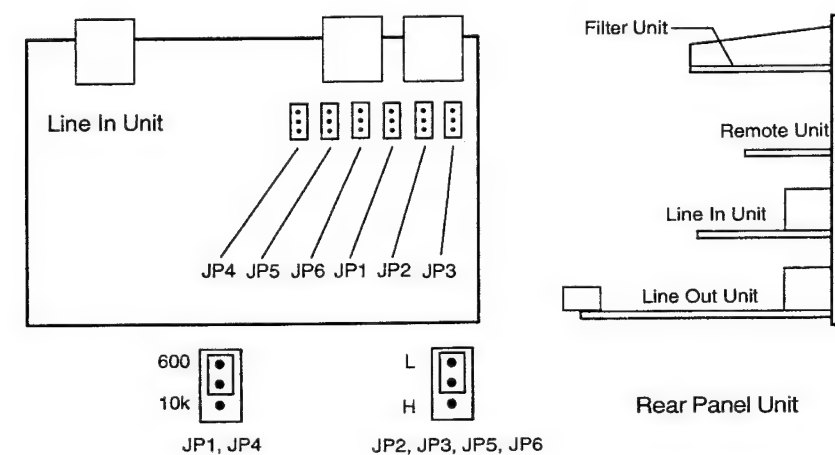

Fig.30 Location of Jumper Pins
- 3) Shift the jumper pins JP1, JP4 of Input Unit to "600" side. (Refer to Fig. 30.)